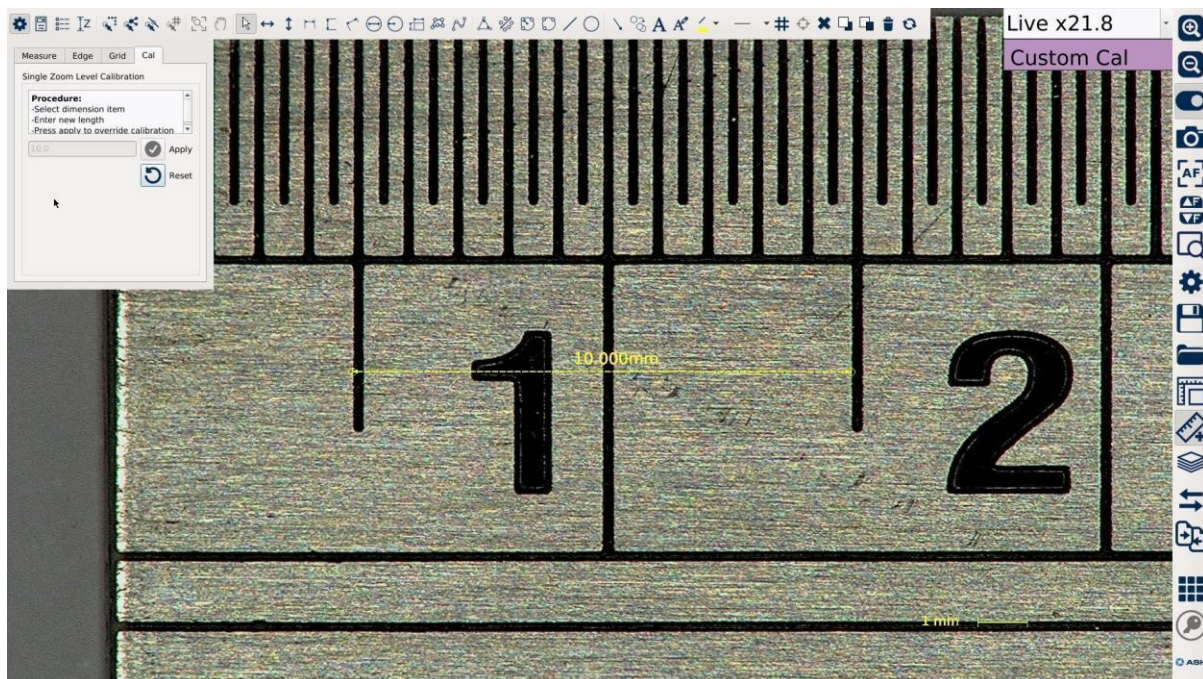

Fig. 26
The single zoom calibration feature (Fig. 26) can be used to temporarily override the AshCal feature should the requirement arise e.g. using a non-system calibrated lens or making measurements at lower magnifications.
- Go to Single Zoom Level Calibration Tab (Measurement Settings see fig. 26)